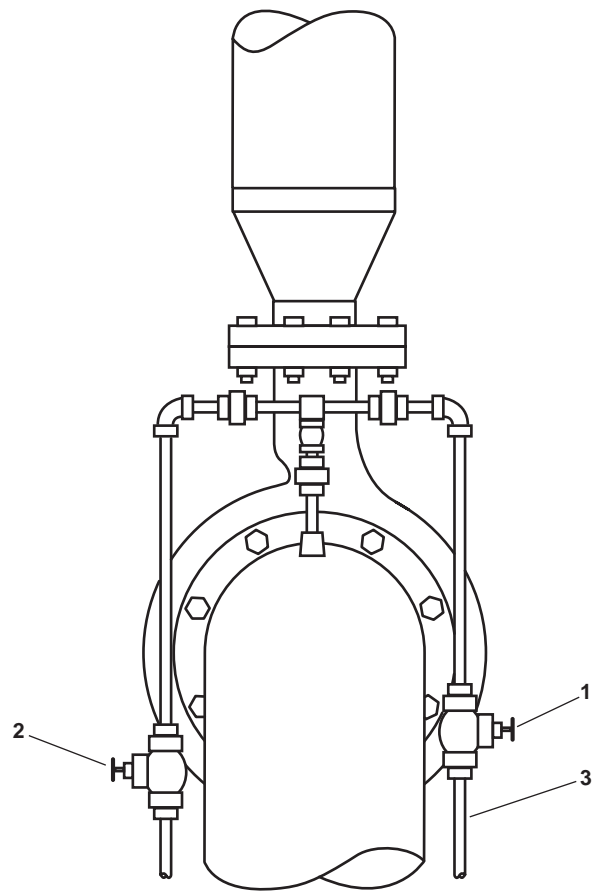

Figure 15. Diesel Engine-Driven Firefighting Pump Priming Valves
- a. GS-111, FF PMP PRM EDUCTOR DISCH (figure 15, item 1), located in AMS 1 on the PORT side, near the fire pump
- b. CA-73, SVCE AIR TO FF PMP PRM EDUCTOR (figure 15, item 2), to start the eductor
4. When water discharges from the overflow lines (figure 15, item 3), CLOSE the following valves:
- a. CA-73, SVCE AIR TO FF PMP PRM EDUCTOR (figure 15, item 2), to stop the eductor
- b. GS-111, FF PMP PRM EDUCTOR DISCH (figure 15, item 1)